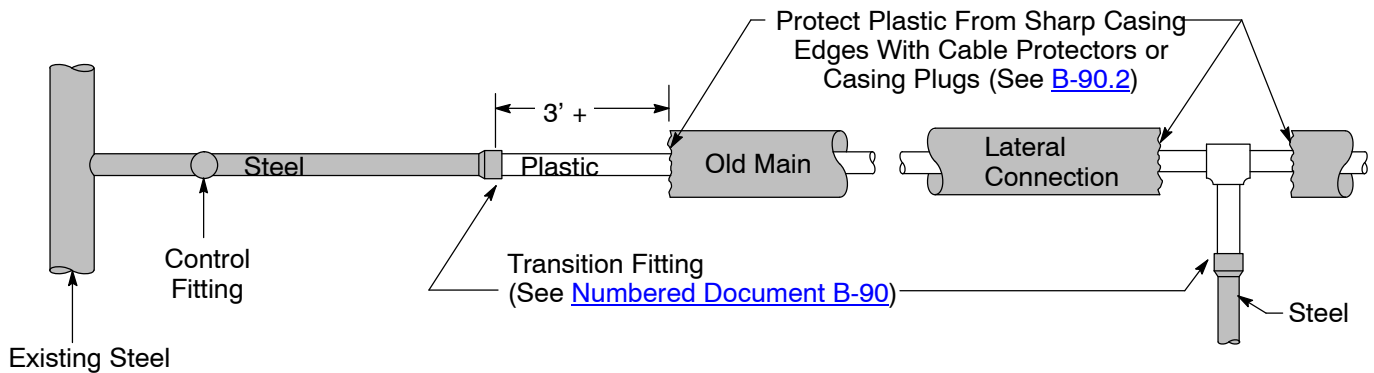
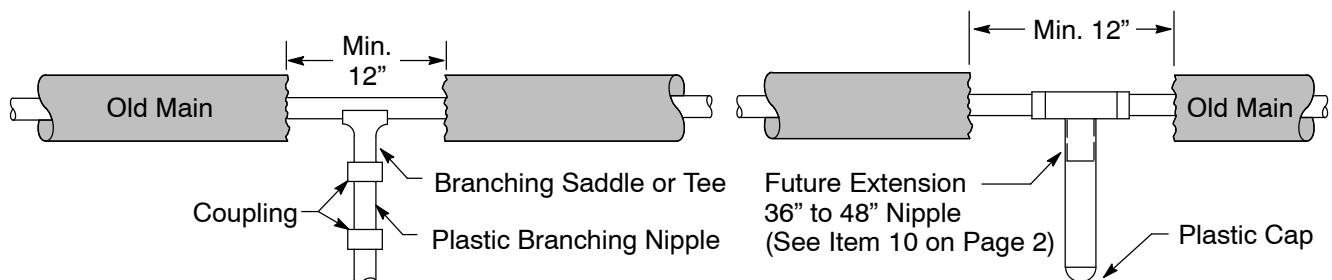
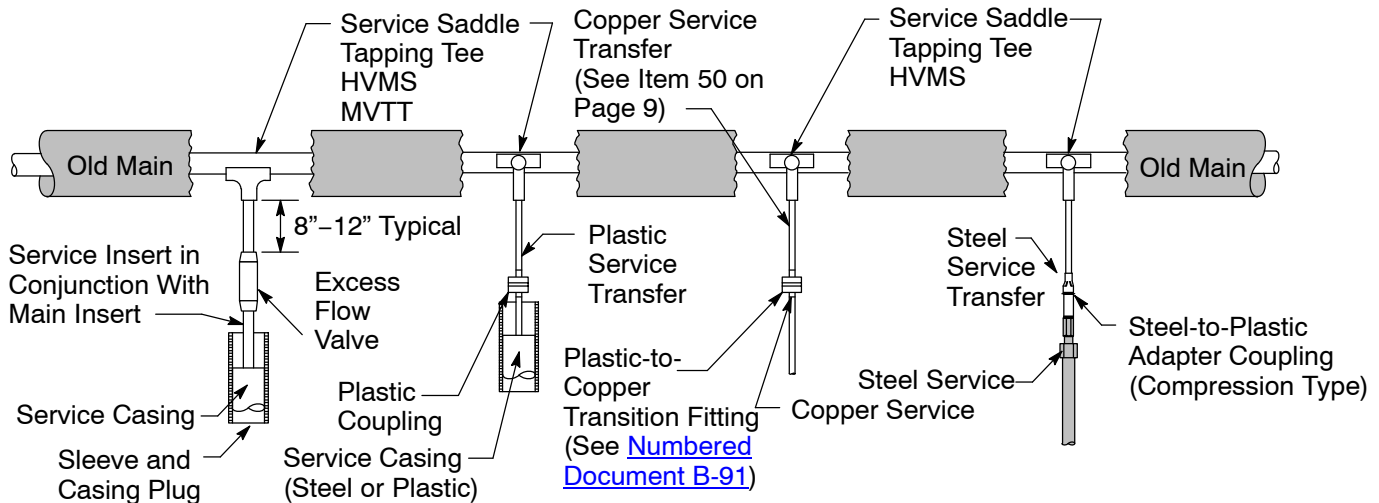

Figure 6
Figure 7
Figure 8
Notes Apply to Figure 6, Figure 7, and Figure 8 on Page 10
9. Edited Figure 8 on Page 10 to add a reference to Numbered Document B-91 and to specify a steel-to-plastic adapter coupling for steel service transfer.